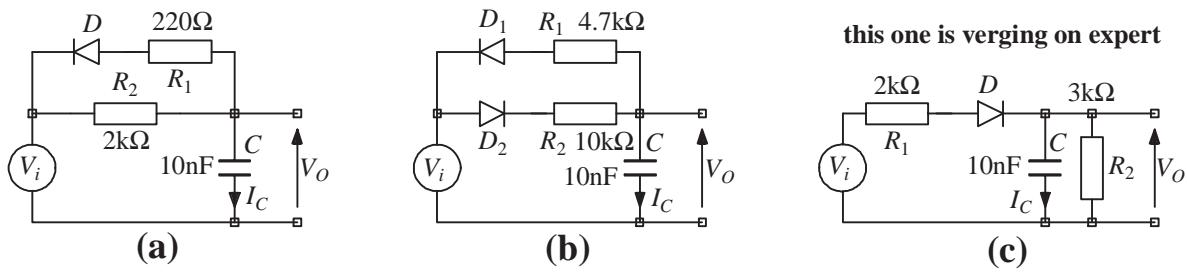
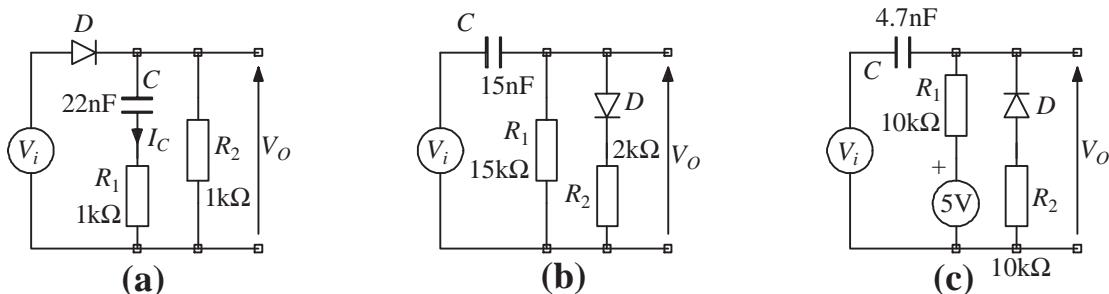

Figure 6
Figure 7
- Q6** For each of the circuits of figure 6, sketch the response of V_o and I_C to a 0V to 10V input pulse with a duration of 100 μ s. You should assume that the diodes are ideal (ie, 0V forward voltage drop) and take care to label your sketch with salient features such as time constants and aiming levels. In the case of figure 6b you will need to work out the voltage reached by V_o at the end of the pulse.
- Q7** The circuits of figure 7 are slightly more subtle in their behaviour than those of figure 6. Each circuit is driven by a 0V to 10V input pulse of 100 μ s duration and uses diodes that can be assumed to be ideal (ie, 0V forward voltage drop).